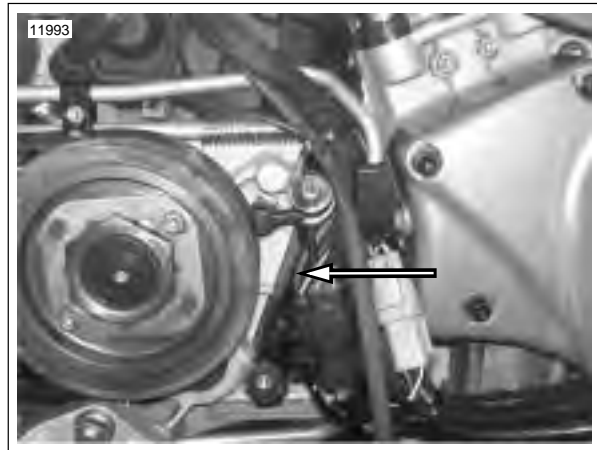

Figure 7-30. Positive Regulator Cable (red wire)
- b. See Figure 7-30. Place load tester induction pickup over positive regulator cable.
1. See Figure 7-30. After removing the load, read the load tester voltage meter.